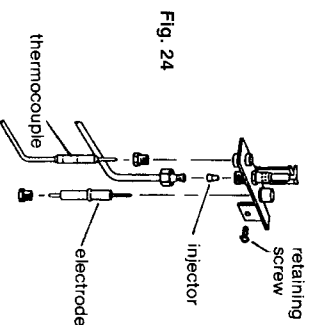

Fig. 24
Refer to Fig 24
8.6.4.3 Release screw securing pilot burner assembly. (fig. 24).
- 8.10.3** Remove 3 screws holding pressure differential switch cover (fig 24) and remove cover.